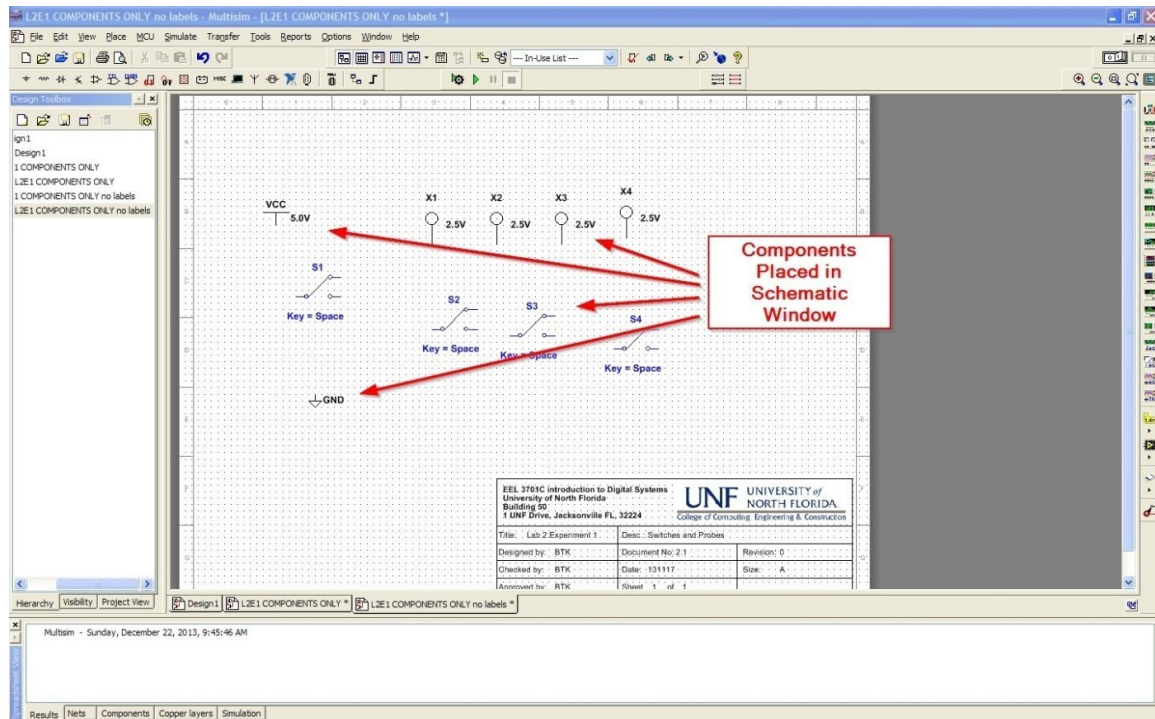

Figure 2. Placing components in Multisim.
- 4) Place the components shown in Figure 2 in the schematic window, as detailed below.